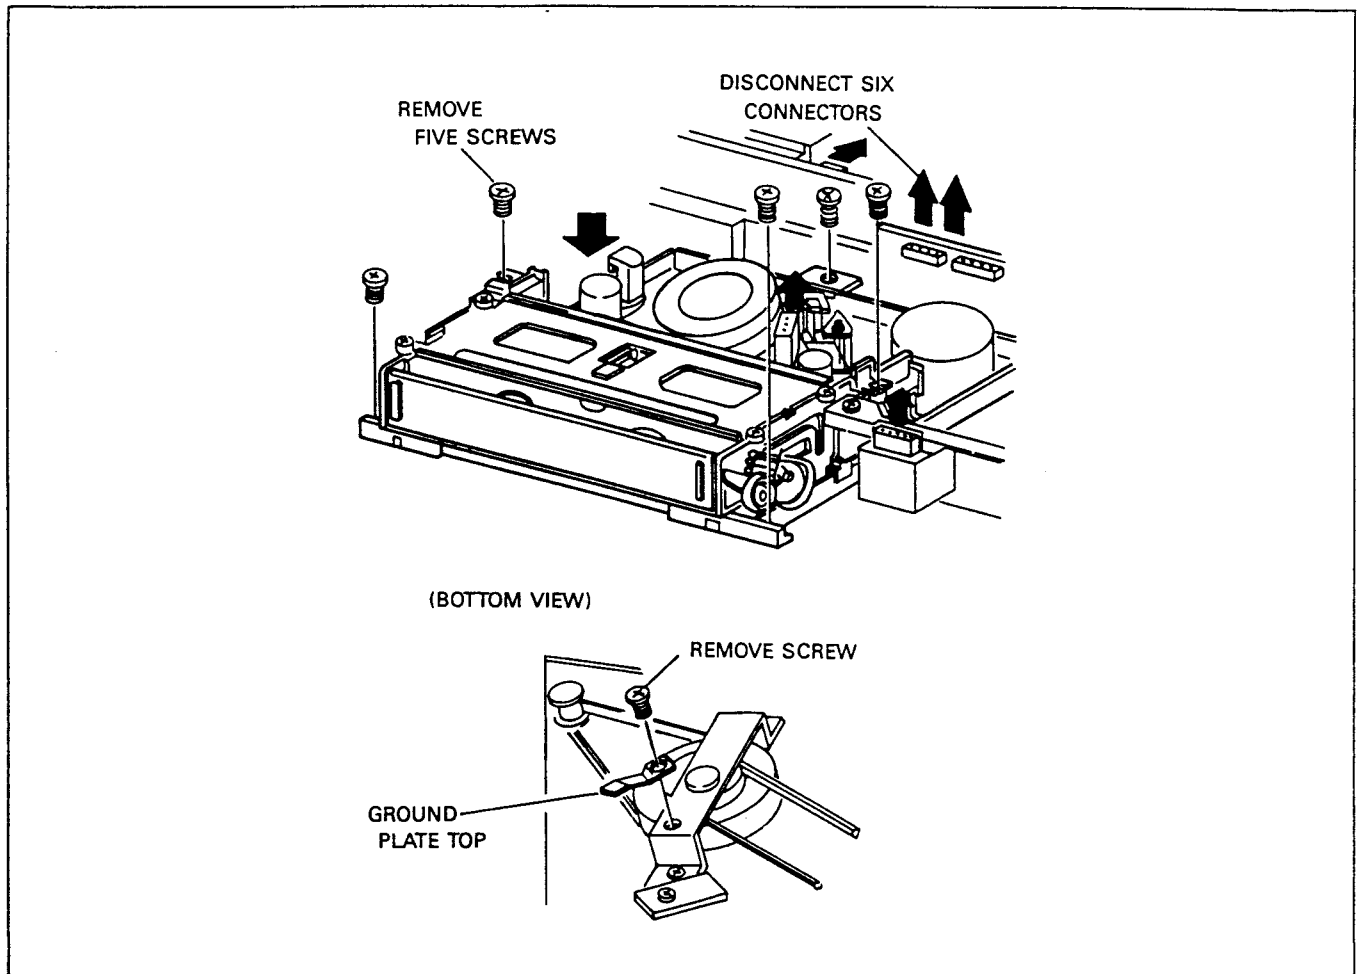
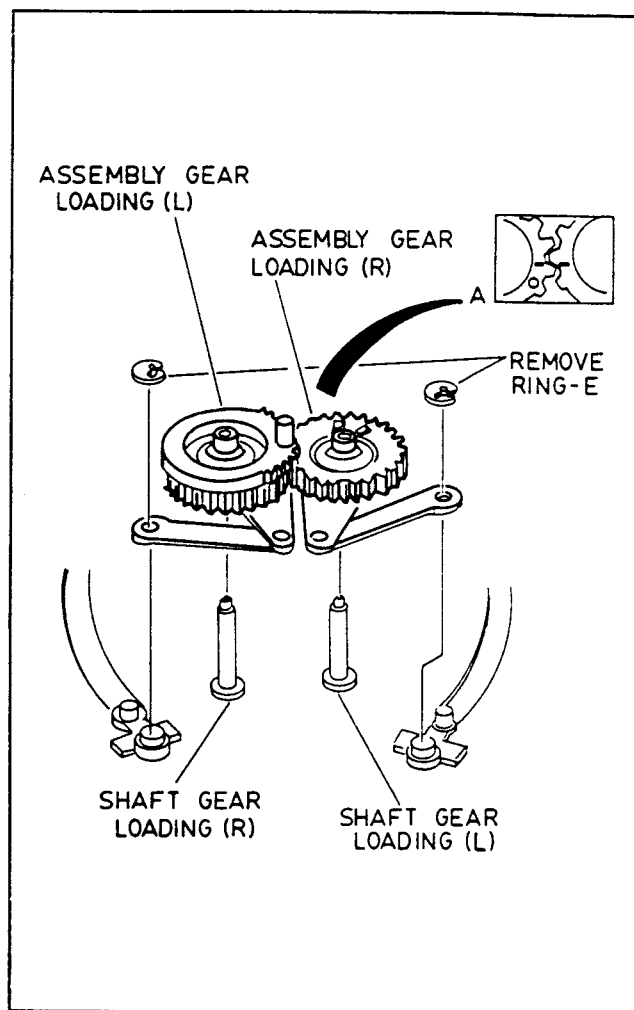

Fig. 22 Mechanical Chassis Assembly Removal
Fig. 31 Assembly Gear Loading (L) (R) Removal
2-2-4. Mechanical Chassis Assembly Removal (Fig. 22)
3. Remove the mecha chassis assembly (See Fig. 22)
2. Remove the mecha chassis assembly (See Fig. 22)
5. Remove three screws (B) attached to capstan motor.
2-2-13. Assembly Gear Loading (L) (R) Removal (Fig. 31)